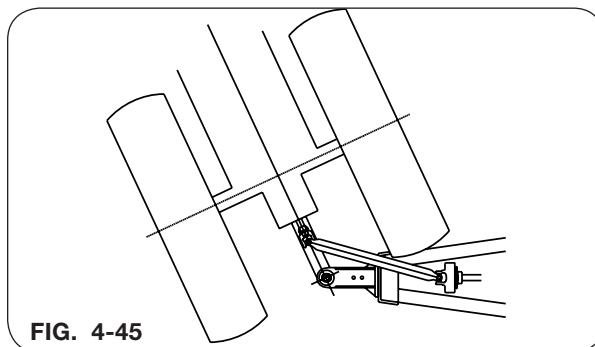

FIG. 4-45
6. Position the tractor to obtain the tightest turning angle, relative to the cart (Fig. 4-45).